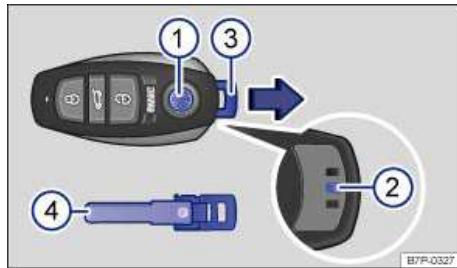

Fig. 333 Releasing and removing the emergency key from the remote control vehicle key with alarm button.
- Press and hold the button ⇒ fig. 333 \(1\) with one hand.
- Press the locking tab (2) on the bottom of the emergency key (4) with the other hand while pulling the emergency key out in the direction indicated by the arrow.